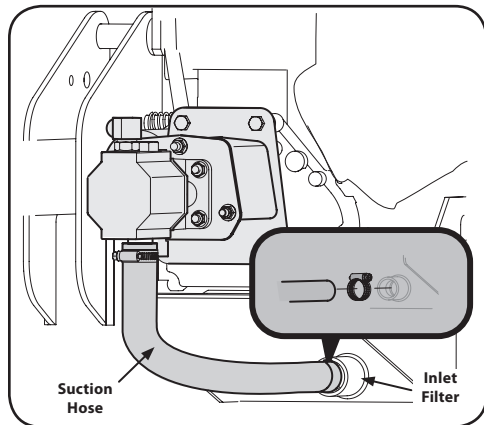
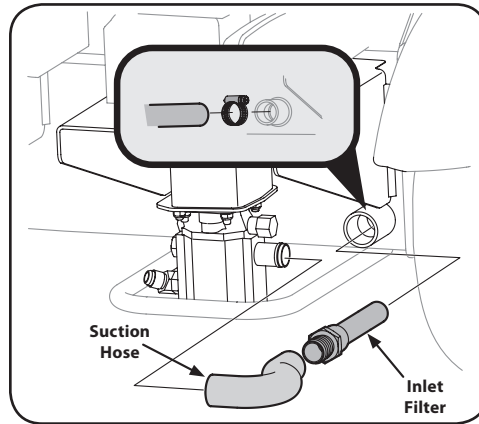

Figure 4-1
Figure 4-2
2. If your engine has a horizontal engine set-up shown in Figure 4-1, refer to Figure 4-1 for changing the hydraulic fluid.
3. If your engine has a vertical set-up shown in Figure 4-2, refer to Figure 4-2 for changing the hydraulic fluid.
4. Disconnect the suction hose from the bottom of the reservoir tank. See Figure 4-1 for horizontal engines or Figure 4-2 for vertical engines.